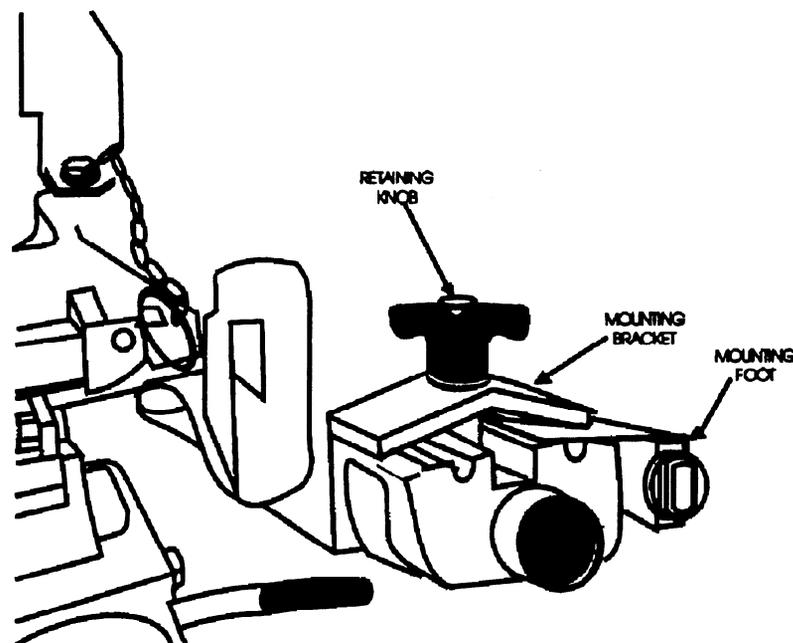

Figure 2-39. GAS Proximity Sensor
2.4.7.4.1.1 GAS Proximity Sensor Installation. Install the GAS proximity sensor assembly (see Figure 2-39) as follows: